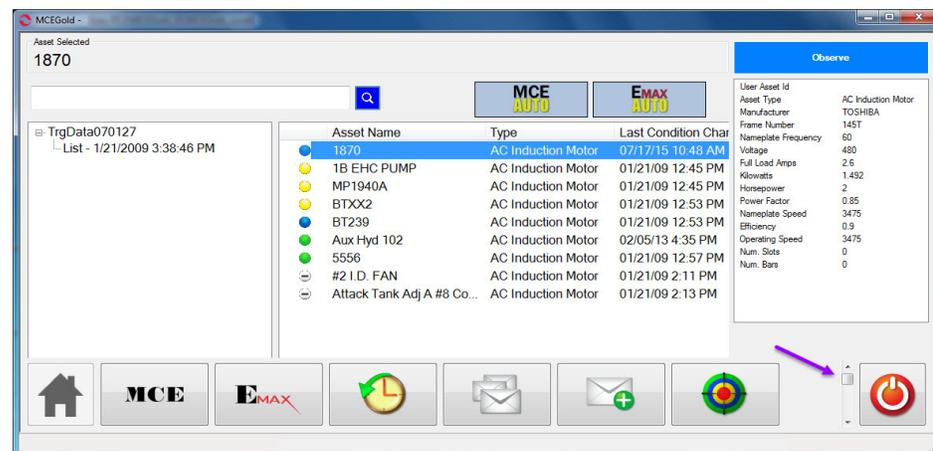

Figure 3-86: Lite Home Screen
- The Home Screen shown in Figure 3-86 opens.